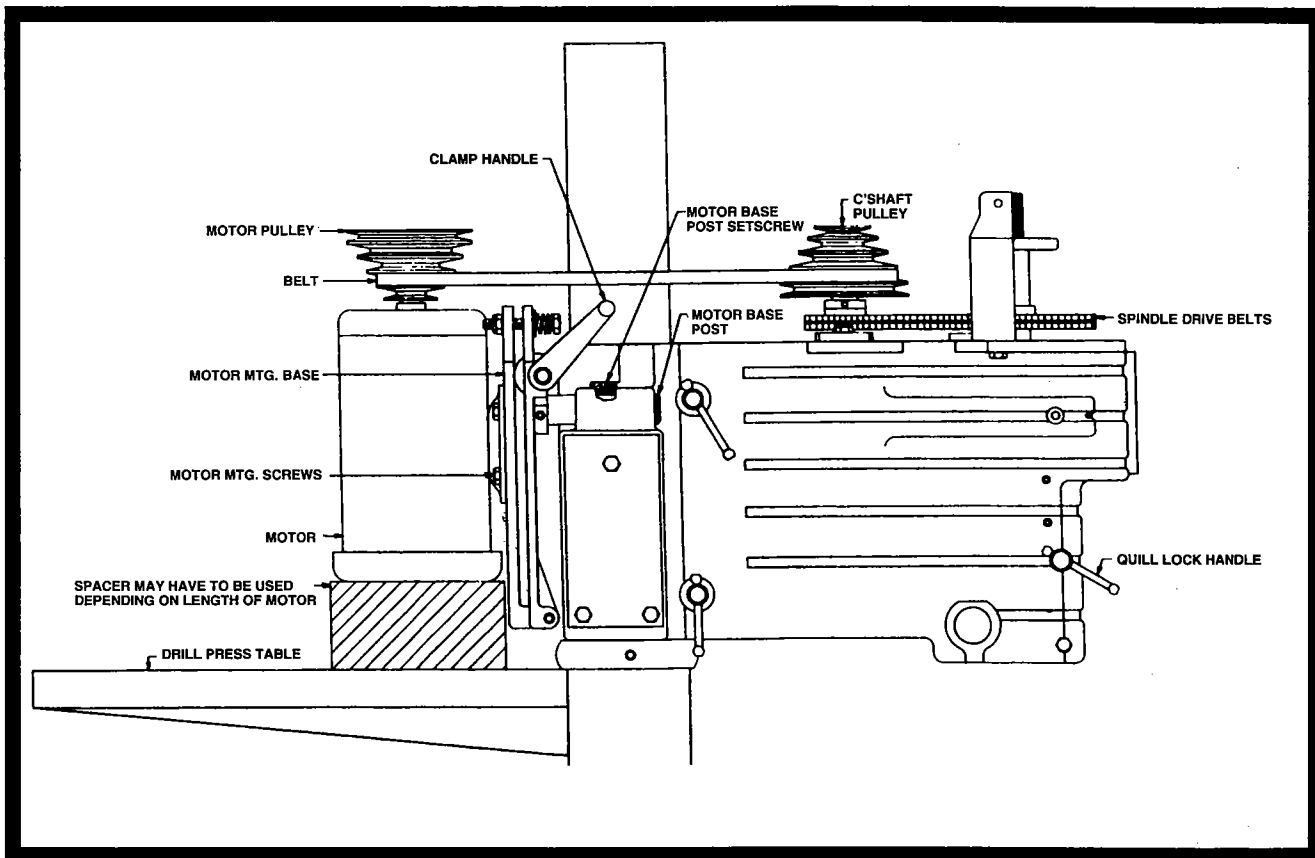

FIGURE 1
- b. Raise drill press table as shown in Figure 1. Place motor upright on table and install motor to motor mount, using (4) 5/16" x 5/8" hex nuts. Align motor and spindle pulley and tighten motor pulley set screws.
Speed changes on step pulley models are to be made with the machine not running - rotate the clamp handle clockwise (Fig. 1). Belt is now free to move to any of the 5 speeds available. When speed choice is made, rotate clamp counterclockwise for proper tension.